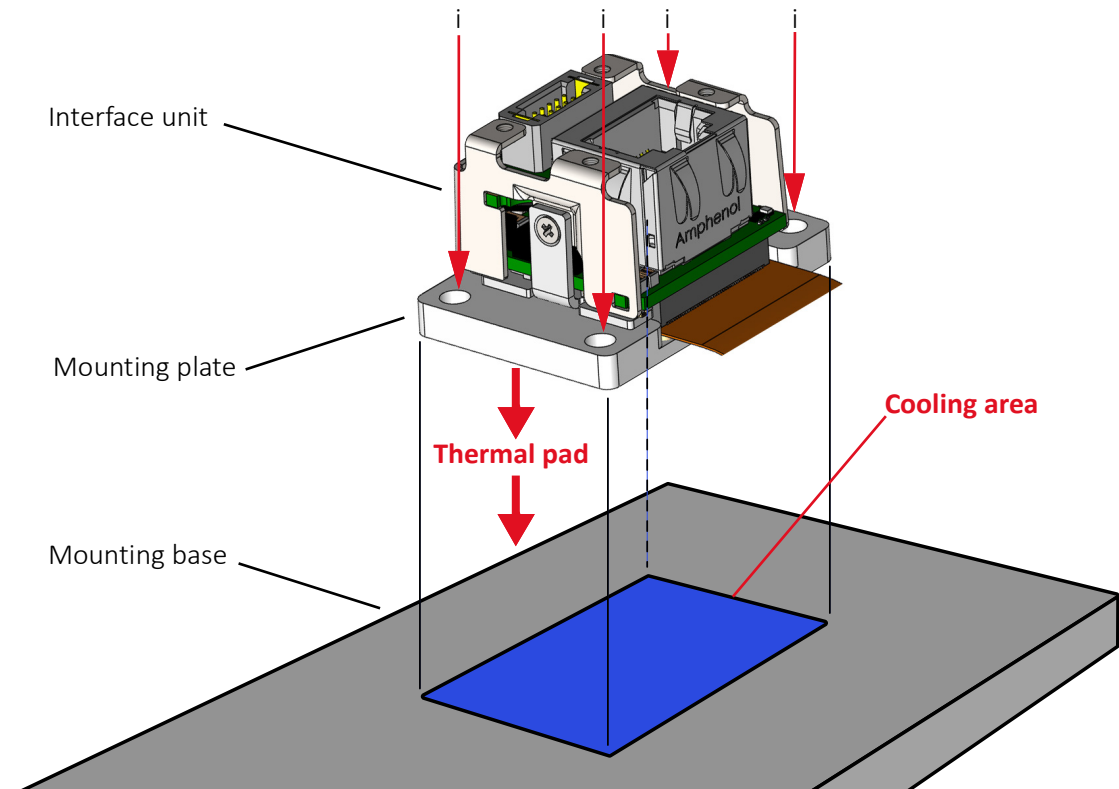

Figure 68: Mounting the G1 BL interface unit to the base
1. Using 4 compatible M3 screws (i), mount the interface unit to the mounting base, as shown in Figure 68 below.
Use a metal base with a large surface area and a thermal pad for the **cooling area** (blue area in Figure 68), to ensure optimum heat dissipation for the interface board.